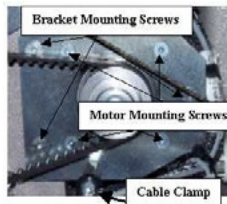

Figure 4 - Z-Motor Mounting Screws
12. Remove the bracket mounting screws as shown in Figure 4 above.
17. Mount the motor assembly to the upper arm as shown in Figure 4 above and tighten the screws to The torque specifications.
19. Attach the cable clamp to the z-motor lead (marked "CONTROL PCB Z MOTOR") and attach the cable clamp at the bottom of the z-motor mounting bracket as shown in Figure 4. Tighten the screw to The torque specifications.